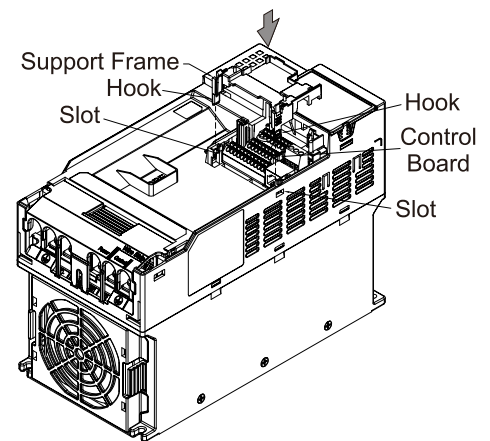

Figure 8-16
3. Assemble the supported frame of the option card: Aim the two clips at the two slots on the motor drive, and then press downward to have the two clips engage the slots, as shown in Figure 8-16.